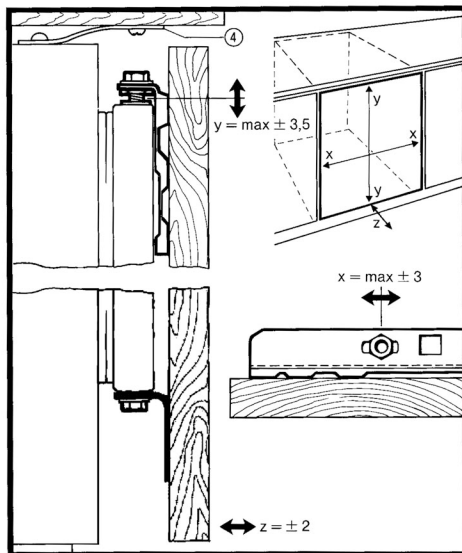

Fig. D2
● Pre-adjust the appliance at slots ④ (fig.D2) in the mounting plate on the worktop.
● **Adjust height Y** at locating pin (14 mm wrench) as shown in fig. D2, $Y = \max. \pm 3,5$ mm